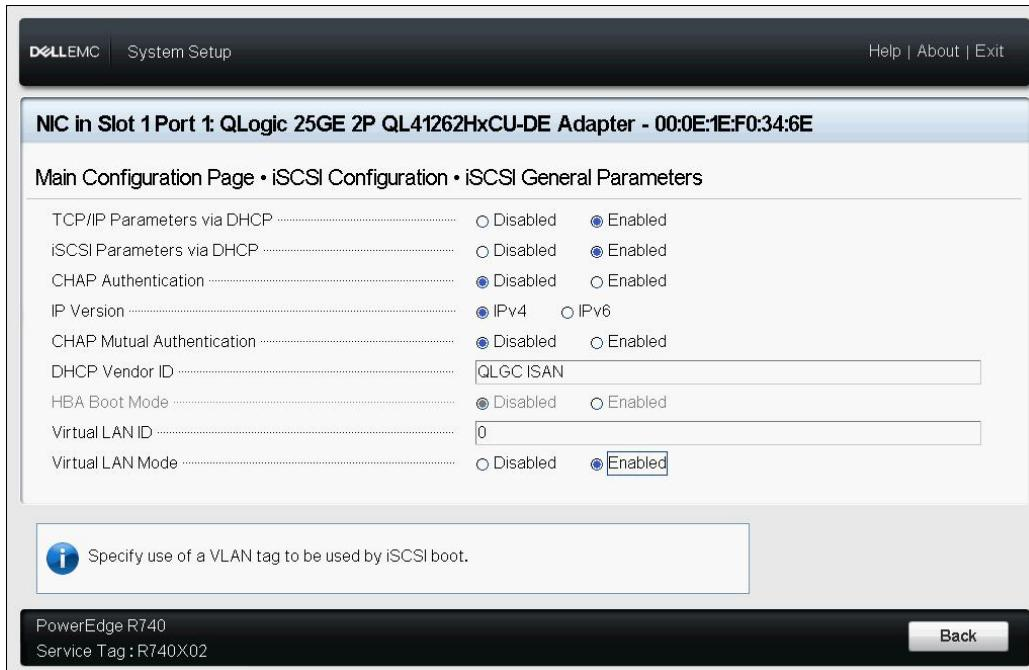

Figure 9-15. System Setup: iSCSI General Parameters
- On the iSCSI General Parameters page, set the following options, as shown in Figure 9-15: